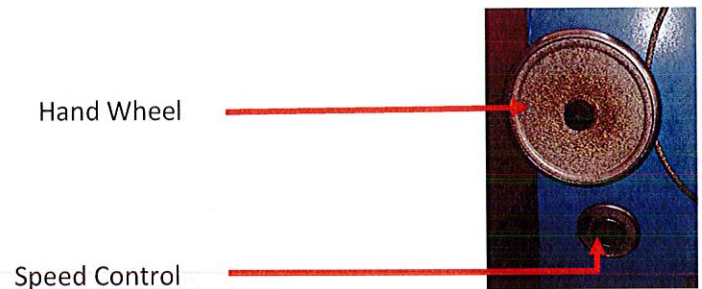

Figure 5: Hand Wheel on Machine Left Hand Side.
- The hand wheel is located on the left side of the machine. (Figure 5)